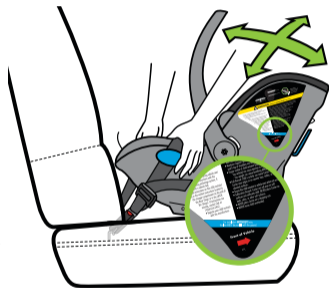

Figure 57
- Grip Carrier near blue LATCH/Lap Belt Guides and pull Carrier side-to-side and front-to-back to check for secure installation, as shown in **Figure 57**. The Carrier should not move more than 1 in. (2.5 cm) at the belt path. Do not push down on Carrier near the child's feet when checking for movement.
- Verify that blue Recline Reference Line is parallel with ground, as shown in **Figure 57**. If not, loosen LATCH Belt a small amount, adjust the recline of the Carrier, and go back to **Step 12**.